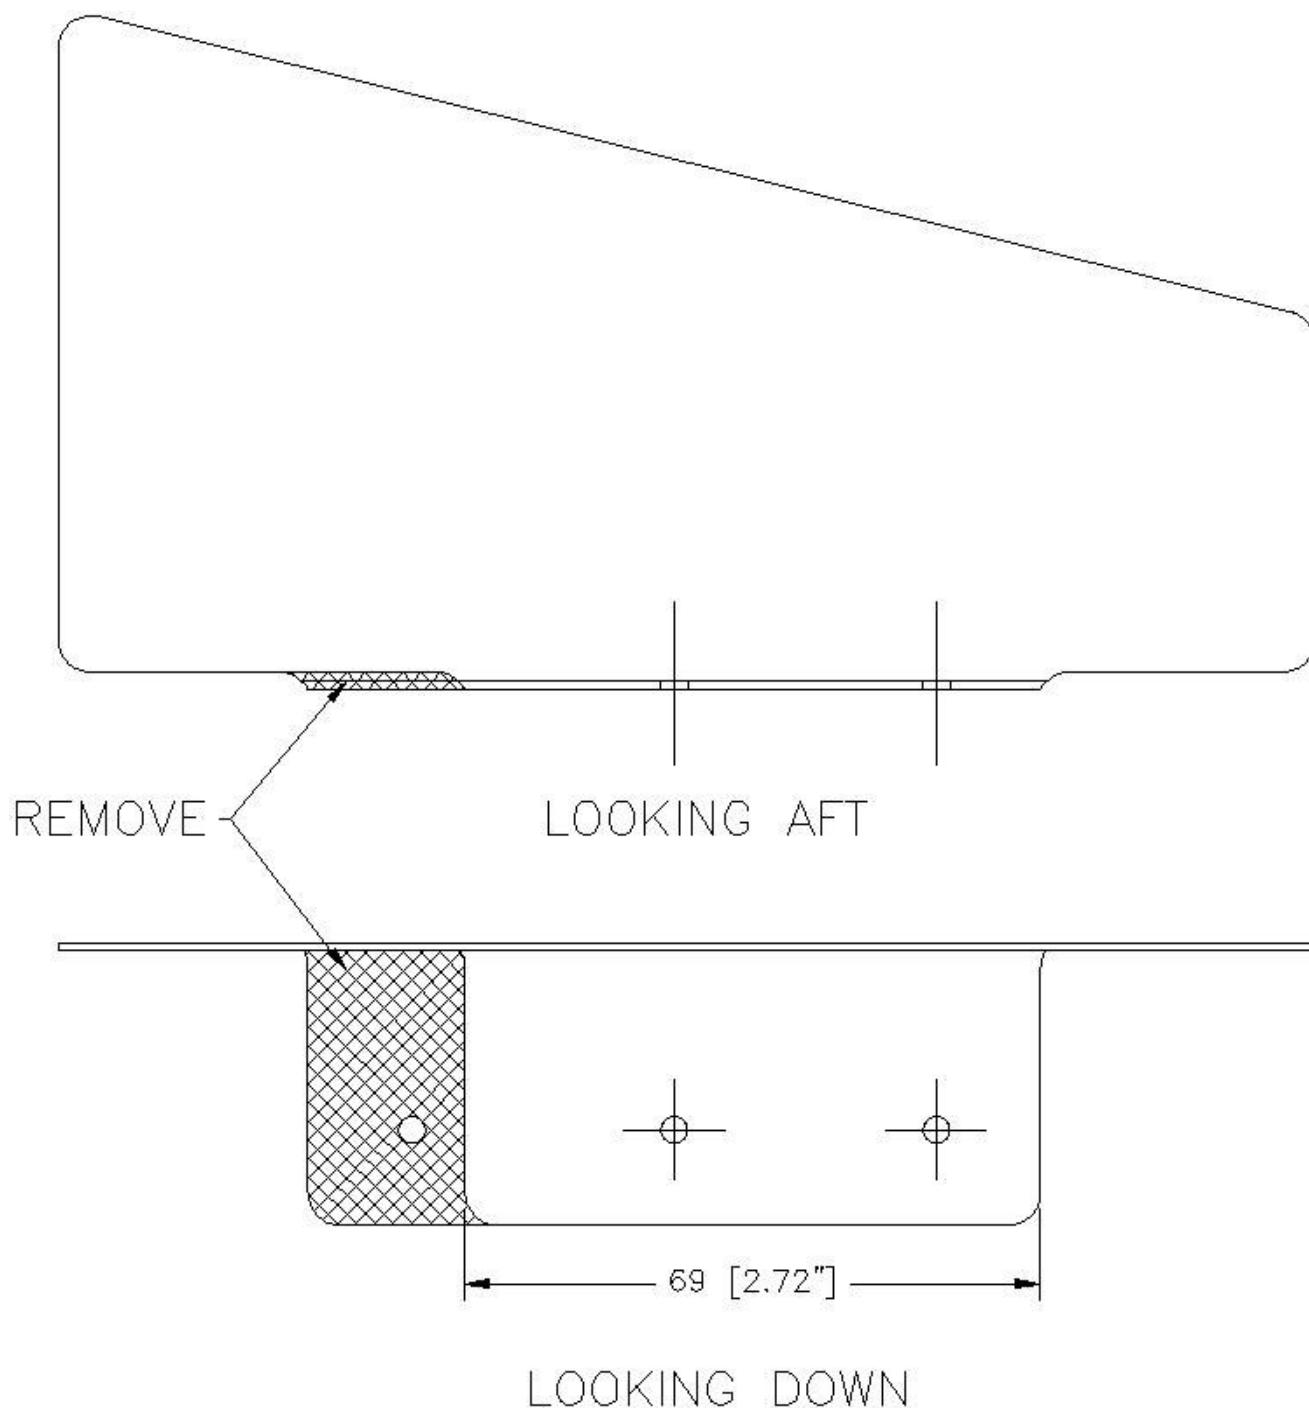

Figure 3: Left-Hand Cylinder Baffle Modifications
- 10.9** Rework the left-hand cylinder baffle to match Figure 3 by removing the corner of the mounting flange. Protect the bare aluminum edges from corrosion with chromate conversion coating (e.g. brush Alodine).